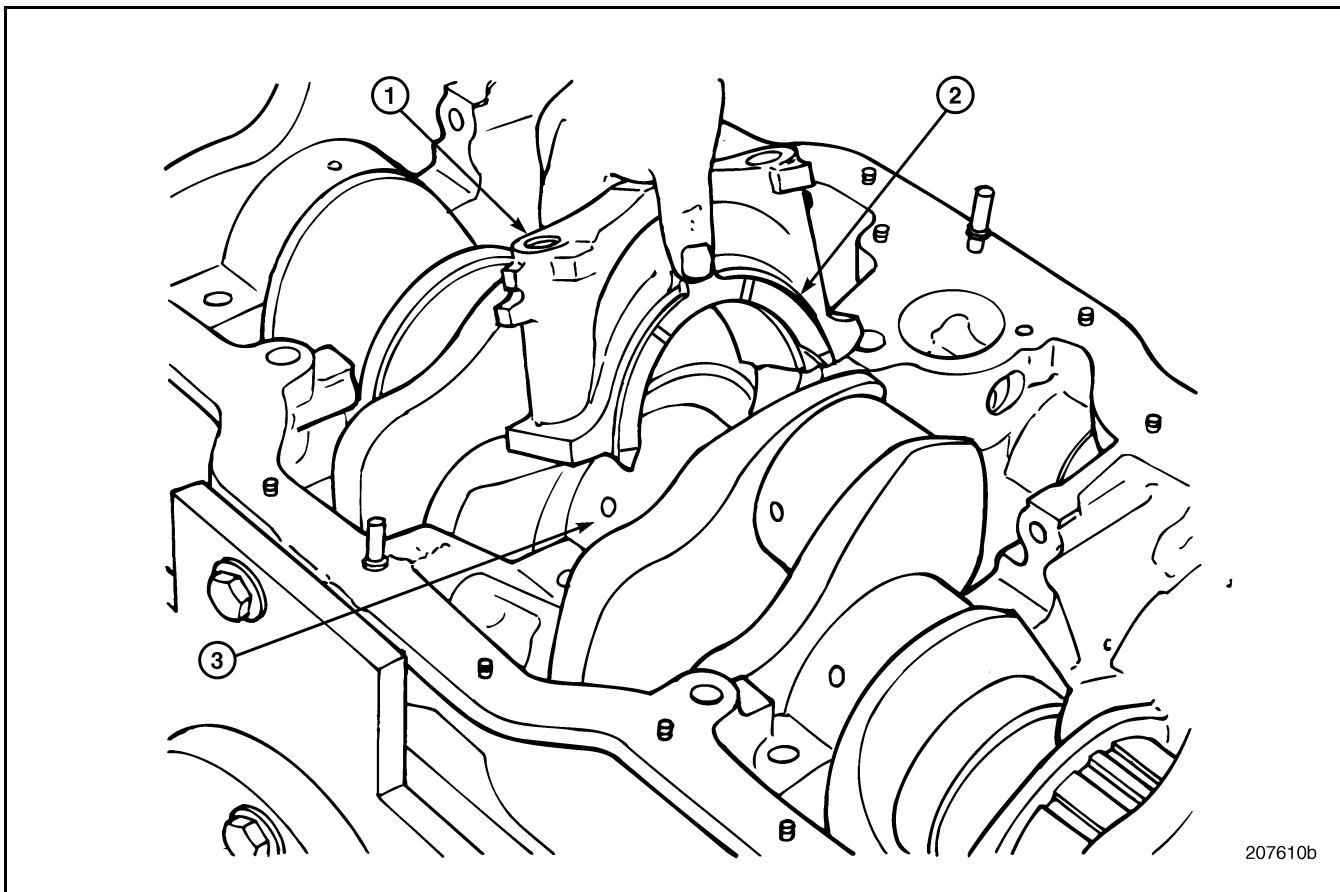

Figure 237 — Main Bearing Cap/Thrust Washer Installation
10. Position the lower thrust washer sections on the center bearing cap (aluminum-faced side toward crankshaft) and install the cap (Figure 237). Torque the capscrews to specification, 210 lb-ft (285 N•m), using torque wrench J 24407, or equivalent.